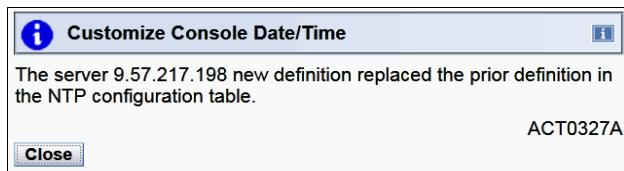

Figure 8-25 NTP setting change confirmation window
- The next window (Figure 8-25) indicates that the modification has completed successfully. Click **Close**.